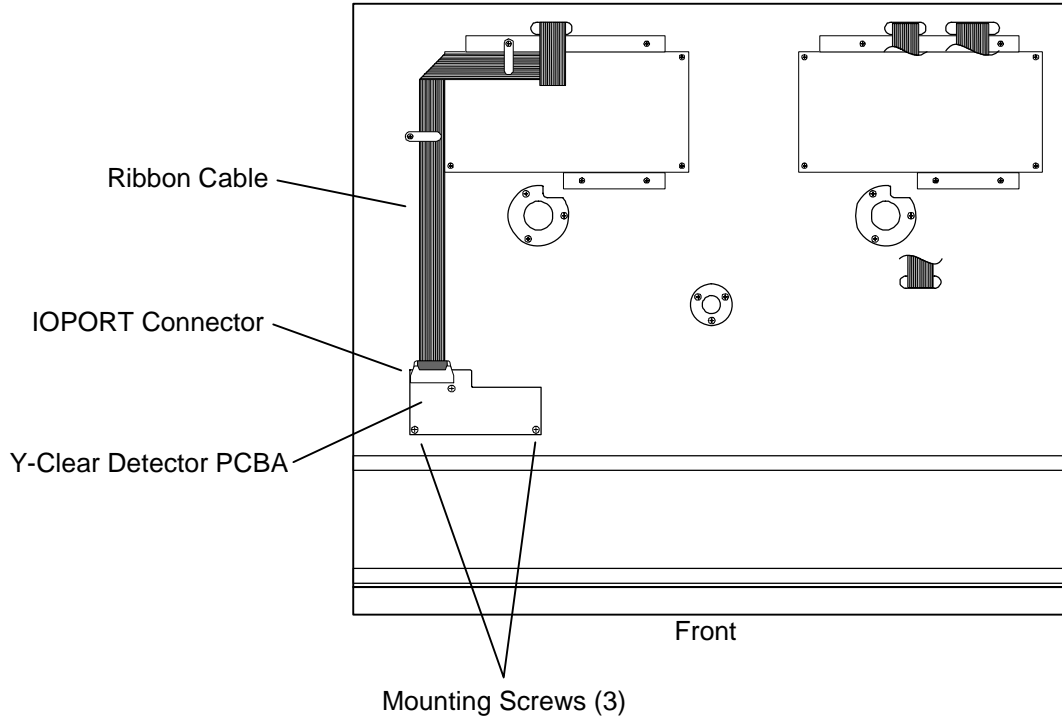

Figure 7-52 Y-Clear PCBA on Top of TLS
3. Disconnect the ribbon cable at the IOPORT Connector (Figure 7-52).
4. Using a number 2 Phillips screwdriver, remove the three mounting screws which secure the Y-Clear Detector PCBA to the top of the TLS (Figure 7-52).
3. Place the Y-Clear Detector PCBA on the top of the TLS and align all three mounting screw holes in the PCBA with the mounting screw holes in the TLS (Figure 7-52).
5. Reconnect the ribbon cable at the IOPORT Connector (Figure 7-52).